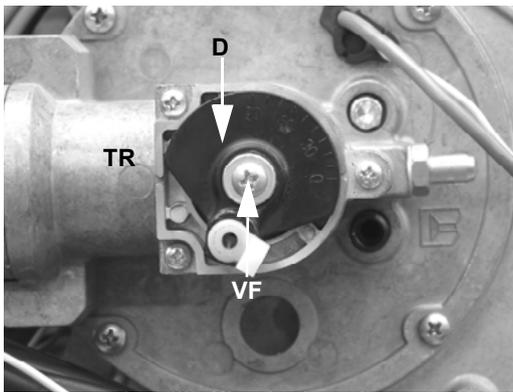

Fig. 22: Standard position
- 11 Rotate the disc **D** for 180 ° and then fit the screw **VF** (Fig. 22).